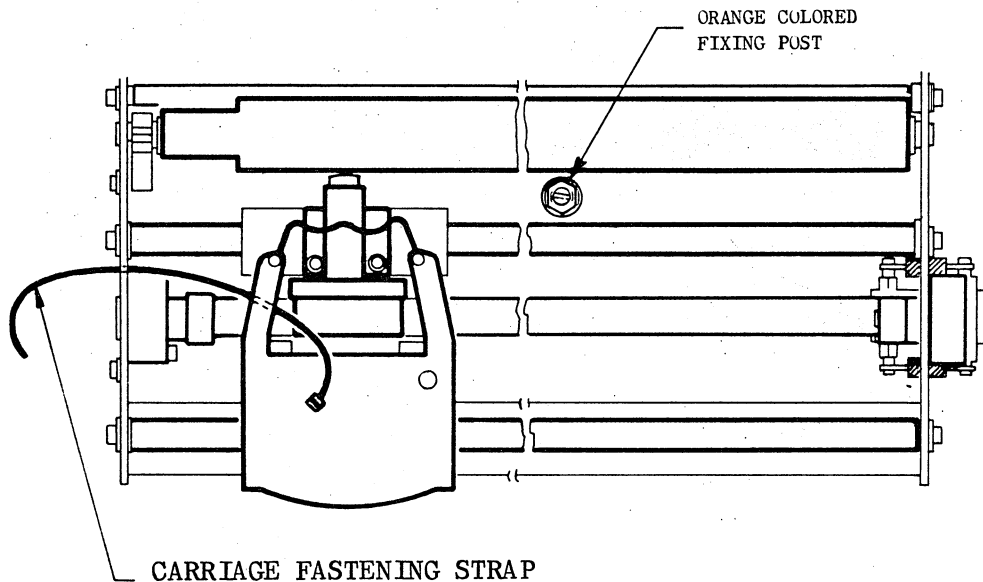

Fig. 6-5
- 8 - Remove the fastening strap which prevents the head from sliding (See fig. 6.5)
- 9 - Rotate the fixing post which locks the mechanics to the base to prevent damages caused by transport so as to make the mechanics rest on the vibrostops (See fig. 6.5)
- 10 - Extract the inked ribbon cartridge from its wrapping and remove the locking pin located on the right-hand of the knob. Fit the inked ribbon unit on the carriage and set the ribbon in front of the head (See fig. 6.5)